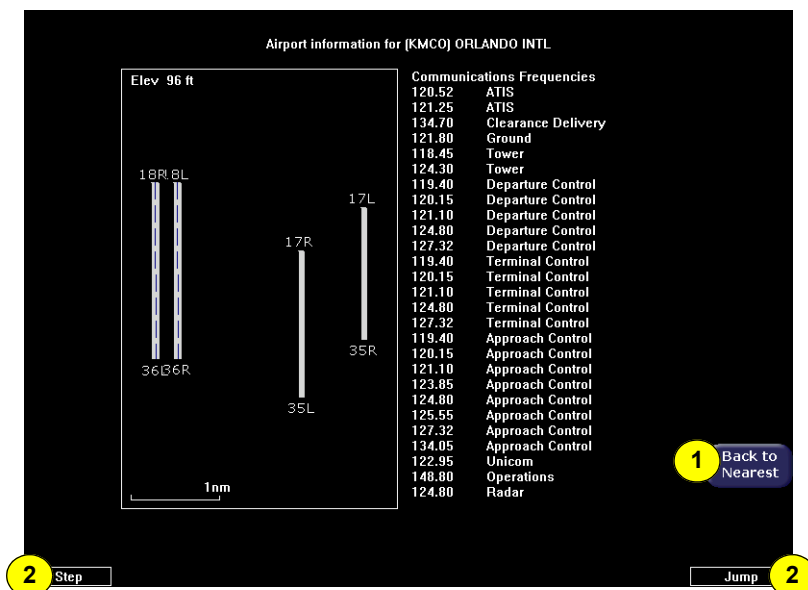

Figure 6.2 Airport Information Page
- 3) **Airport Info**—Provides quick access to airport information for the airport highlighted. *Airport Info* only appears when viewing the Airports Nearest to Position and Airports Nearest to Destination. Airport Info displays a page similar to Figure 6.2.